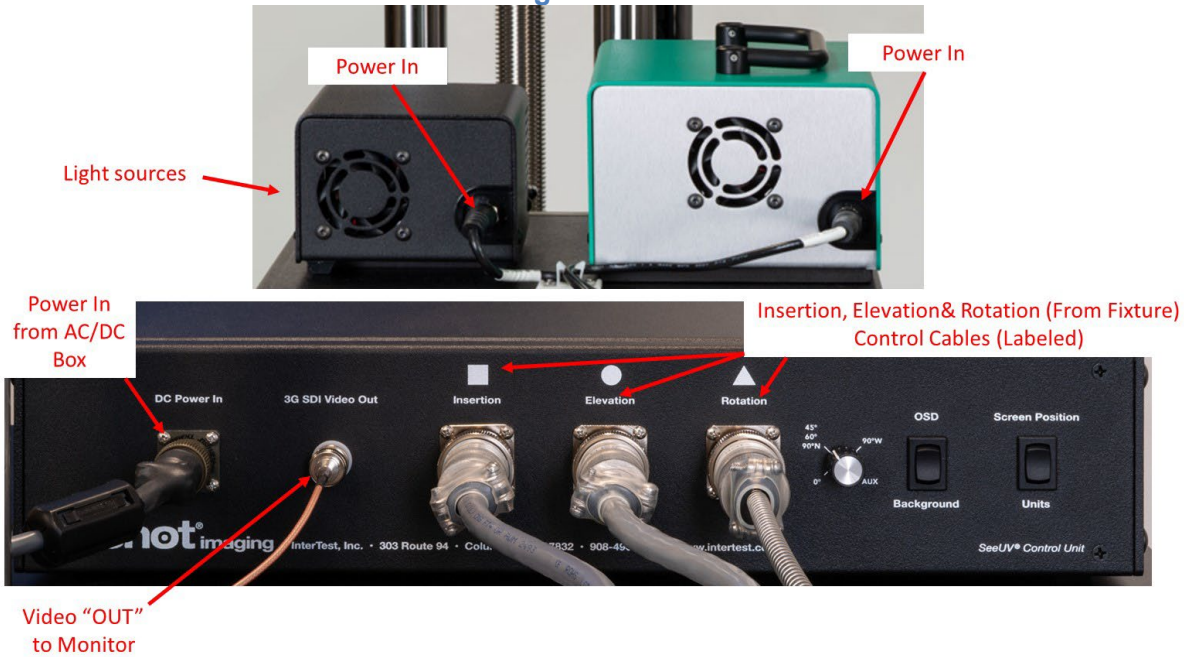

Figure 16 System Connections
- 4) Connect Pole Cam to the Cart Control Unit per Figure 16
After power is applied to the control units & turned ON, Right indicator LED will light up on the front of the Camera CCU See Figure 7, wait 5-10 seconds, until the Main Menu appears in the CCU Screen. OSD will appear in 20-30 Seconds provided it has been activated. See Figure 16 & 18. Turn on the light source(s), White/UV as needed See Figures 6, 9 & 12.